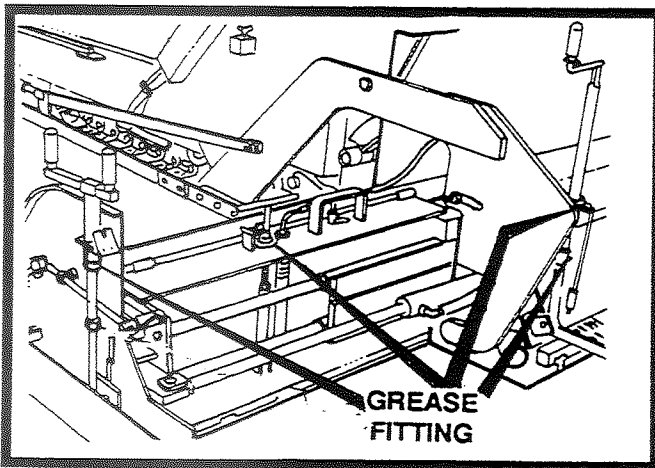

FIGURE 28
4. For both ends of the screed, grease the two grease fittings on the flight screw (the fitting on the depth screw and the fitting on the flange bearing) located on top of the extension screed. See figure 28.